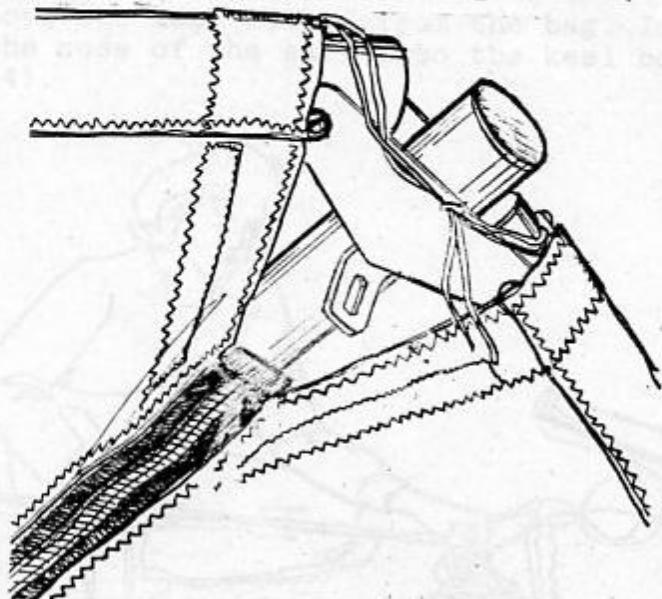

Fig. 3.1.41.
23. Zip up the bottom surface front zipper at least about half way. Tie up the cord which protects a zipper from the destruction because of opening of leading edges (Fig. 3.1.41).